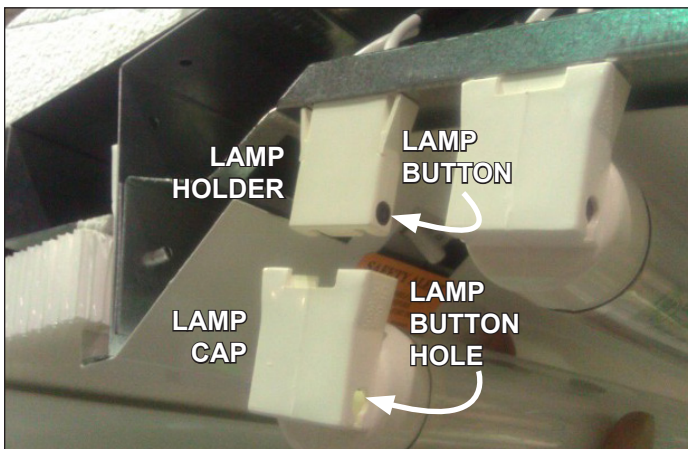

Fig. 16 Remove old T-8
1. Simultaneously pull down at both ends of the old T-8 light to remove from the lamp holder (Fig. 16). Remove the lamp caps and plastic shield from the old light, then discard the light.